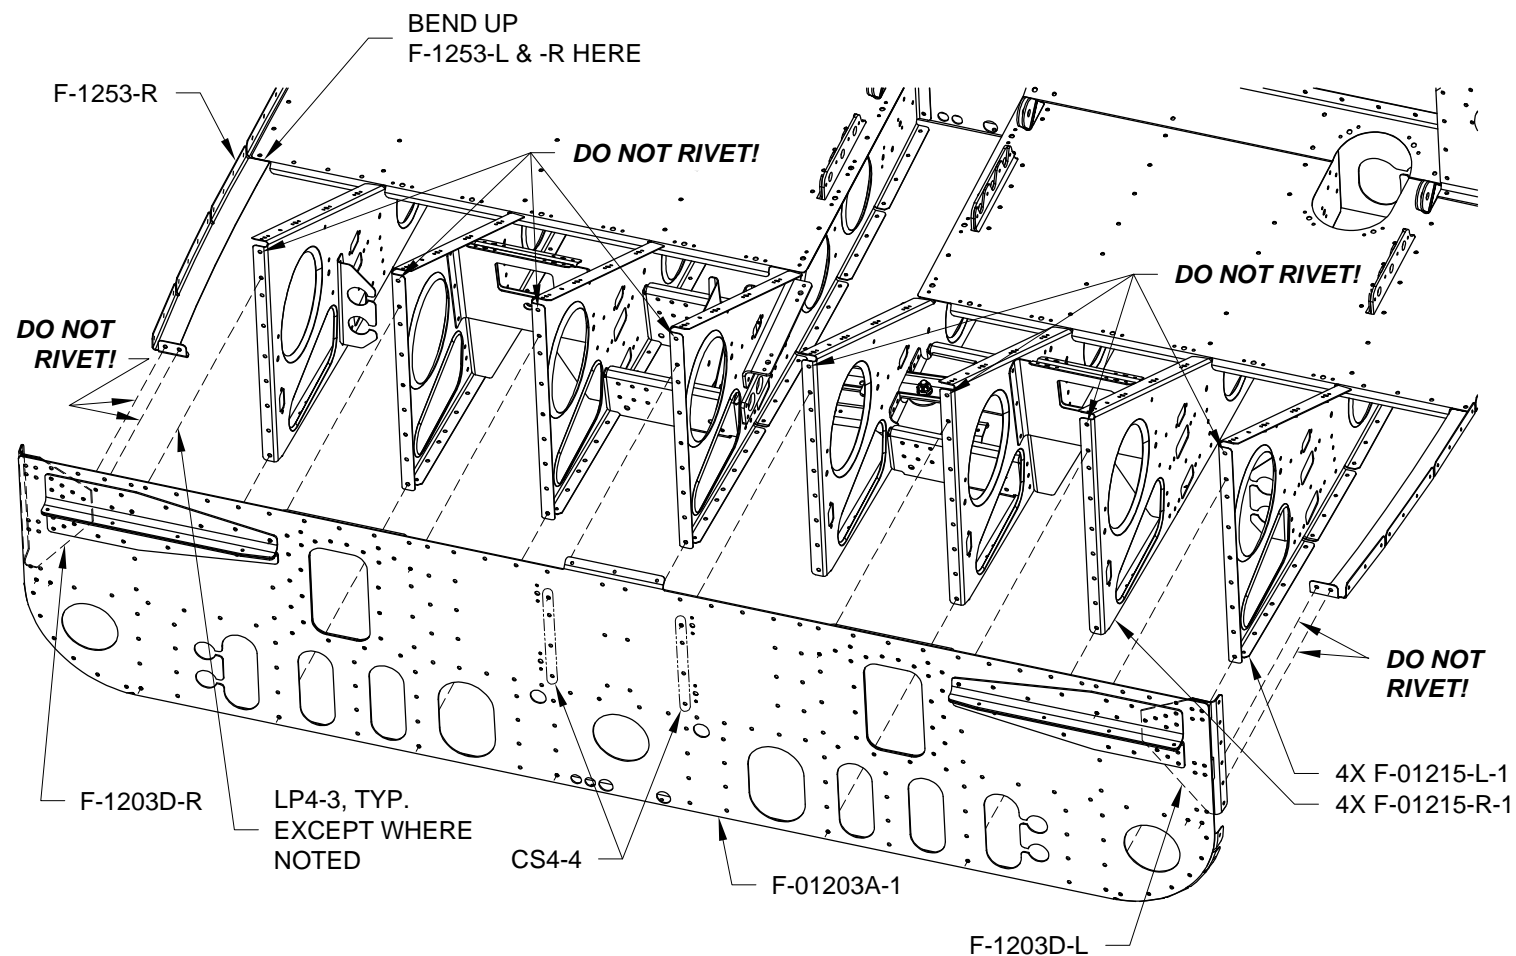

FIGURE 1: INSTALLING F-01203A-1
Step 2: Rivet F-01203A-1 to the front flange of each F-01215-L-1 & -R-1 using the rivets called out in Figure 1 except where indicated. DO NOT rivet F-1253-L & -R at this time.